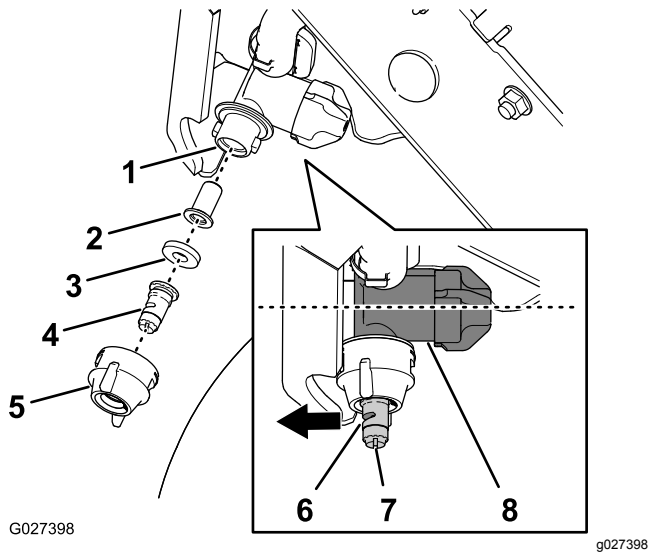

Figure 66
1. Rotate the nozzle cap 90° counterclockwise and remove the cap from the nozzle body (Figure 66).
2. Remove the sprayer tip, gasket, and strainer from the nozzle body (Figure 66).
4. Assemble the strainer into the nozzle body (Figure 66).
5. Assemble the sprayer tip and gasket into the nozzle cap (Figure 66).
6. Install the tip, gasket, and cap onto the nozzle body (Figure 66).
Note: Use the slot to rotate the atomizer (Figure 66) of the sprayer tip forward (in-line with the flow-regulator case of the nozzle body).
7. Rotate the nozzle cap 90° clockwise (Figure 66).